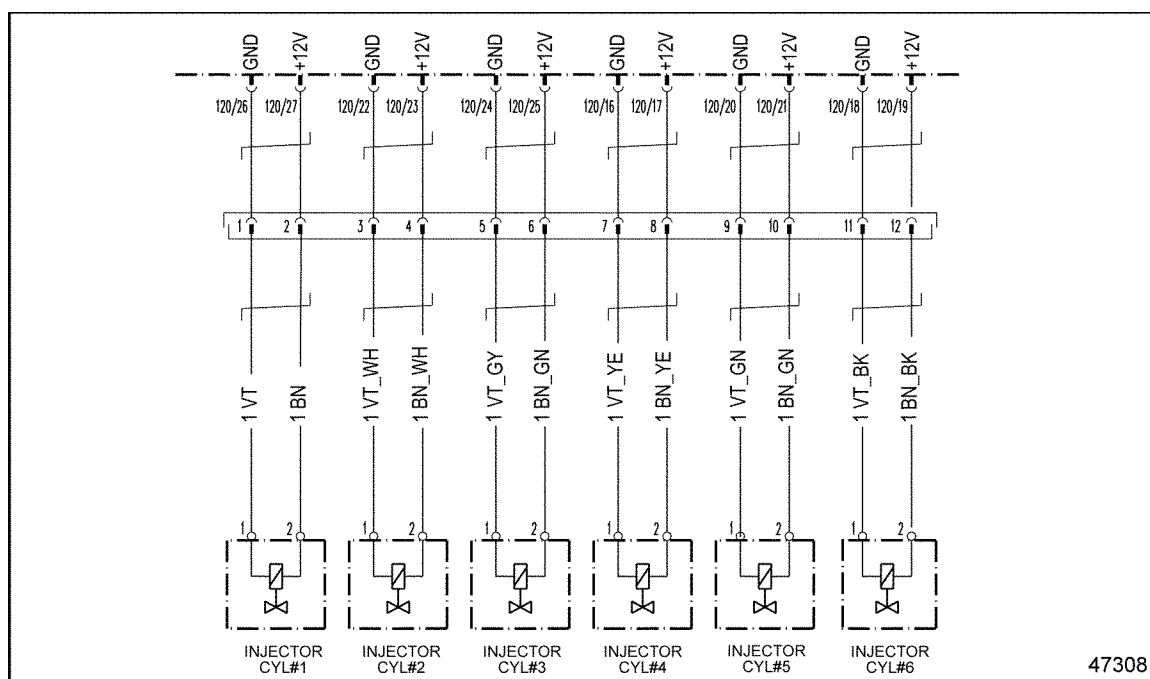

Figure 28-1 MBE 900 Injectors
4. Measure the resistance between pins 9 and 10 on the valve cover side of the connector. See Figure 28-1.